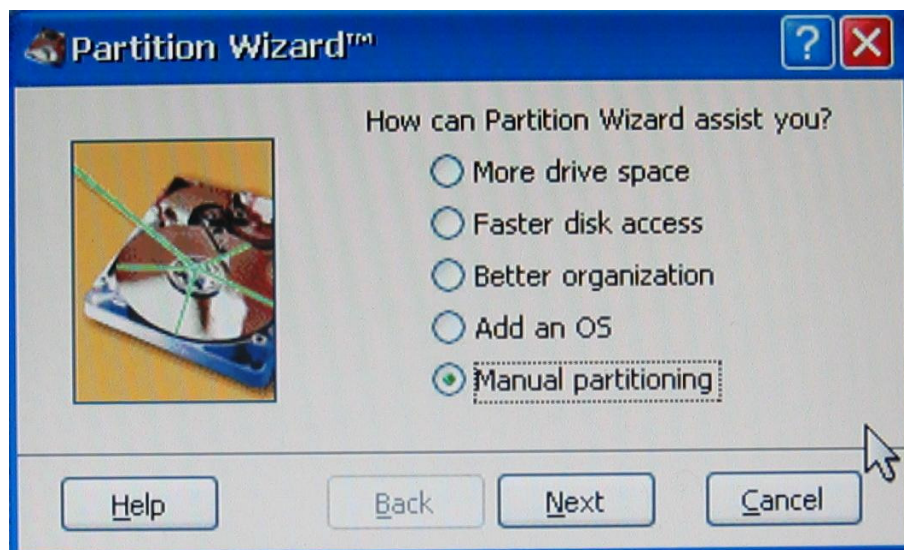

Figure 4-3 Manual Partitioning
4. Select 'Manual partitioning' and click 'Next' to bring up the 'Partitioning' window as illustrated in Figure 4-3.